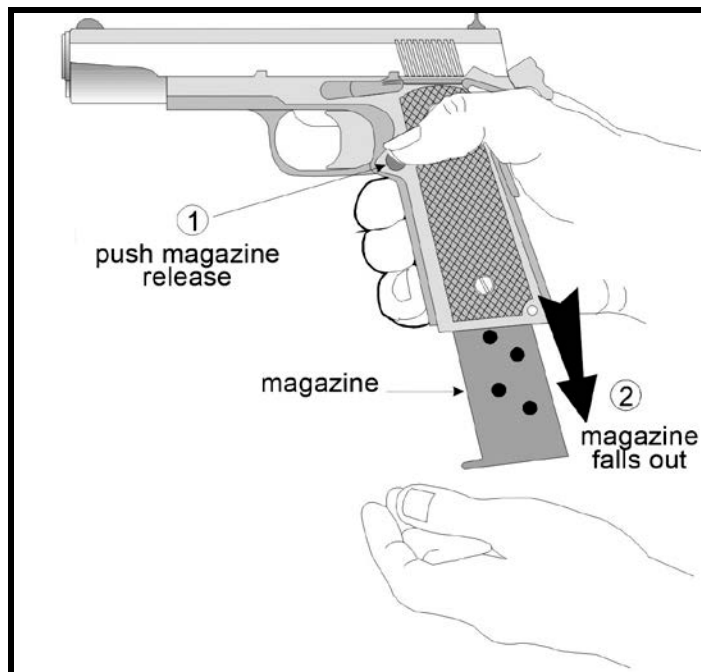

Figure 116. Removing the magazine from a semi-automatic
- Push the magazine-release button (Figure 116) to remove the magazine (the source of all the ammunition except for possibly one chambered cartridge).